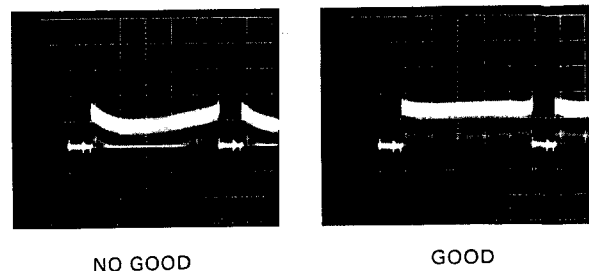
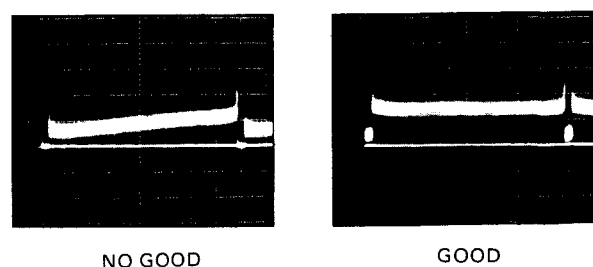

Fig. 5-6-2
Fig. 5-6-3
- o Connect the oscilloscope to TP9 (G OUT) and trigger the oscilloscope at H rate (Use TP9 (BL), Deflection board.).
- o While observing the waveform, adjust VR3 (G H-SAWTOOTH) and VR4 (G H-PARABOLA) on the Process VIC4 board to make the dark waveform as flat as possible. (Fig. 5-6-2)
- o Adjust VR1 (G V-SAWTOOTH) and VR2 (G V-PARABOLA) on the Process VIC4 board to make the dark waveform as flat as possible. (Fig. 5-6-3)
- o Connect the oscilloscope to TP10 (R OUT) and trigger the oscilloscope at H rate (Use TP9 (BL), Deflection board.).
- o Adjust VR7 (R H-SAWTOOTH) and VR8 (R H-PARABOLA) on the Process VIC4 board to make the dark waveform as flat as possible as in the case of G dark shading adjustment. (Fig. 5-6-2)
- o Adjust VR5 (R V-SAWTOOTH), VR6 (R V-PARABOLA) on the Process VIC4 board to make the dark waveform as flat as possible. (Fig. 5-6-3)
- o Connect the oscilloscope to TP11 (B OUT) and trigger the oscilloscope at H rate (Use TP9 (BL), Deflection board.).
- o Adjust VR11 (B H-SAWTOOTH) and VR12 (B H-PARABOLA) on the Process VIC4 board to make the dark waveform as flat as possible as in the case of G dark shading adjustment. (Fig. 5-6-2)
- o Adjust VR9 (V B-SAWTOOTH) and VR10 (B V-PARABOLA) on the Process VIC4 board to make the dark waveform as flat as possible. (Fig. 5-6-3)